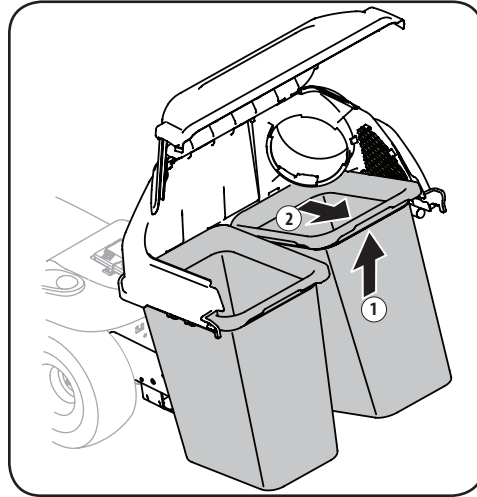

Figure 5-3
4. Remove the grass bags by lifting these up (1 in Figure 5-3) and moving the bags away from the bag support assembly (2).